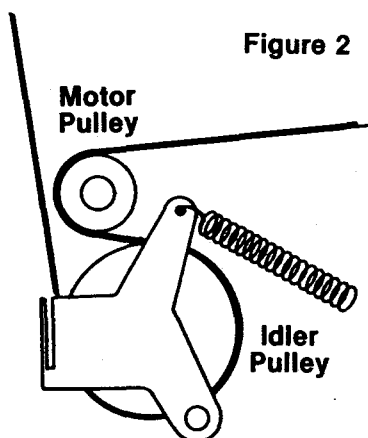

Figure 2
5. Route the loop over and between the motor pulley and the idler pulley (Figure 2).